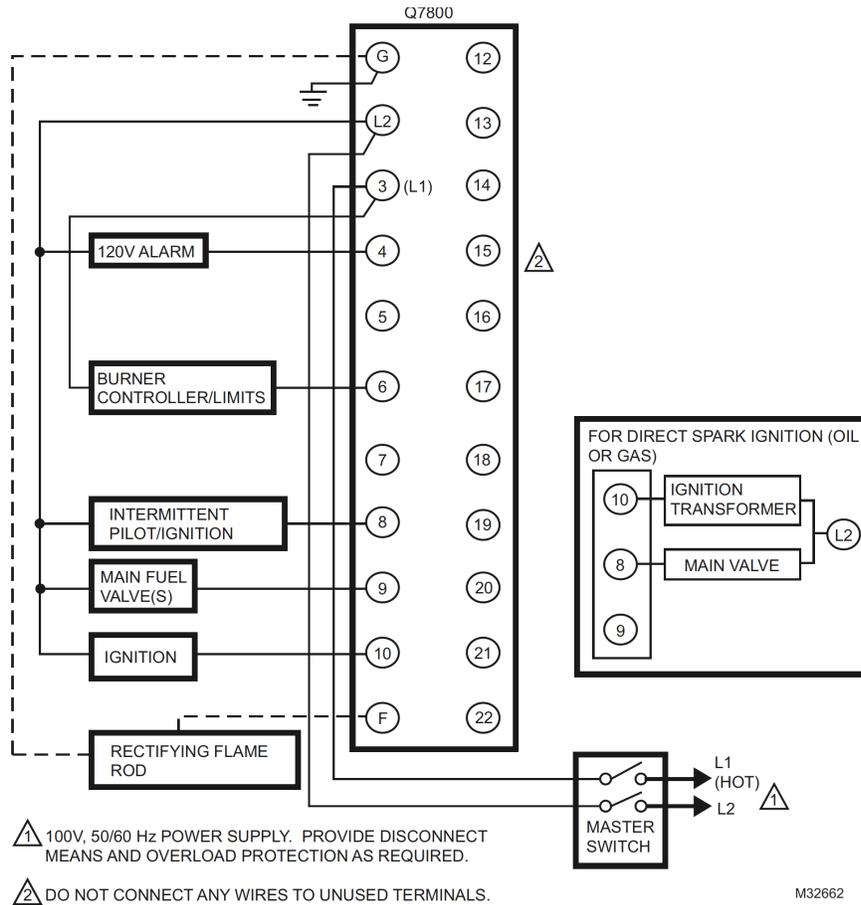

Fig. 6. Wiring the RM7890 Relay Module.
1. *Wiring connections for the relay modules are unique; refer to Fig. 6 and 7 or the correct Specifications for proper subbase wiring.*
1. For proper subbase wiring, refer to Fig. 6 and 7.